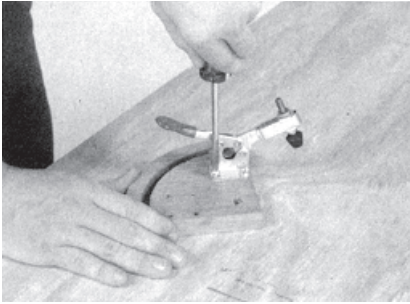

Fig. 6
1. Using Tenon Master Jig, cut spline kerfs into the miter. With trunnion facing you, secure clamp into left set of holes (see Fig. 6).